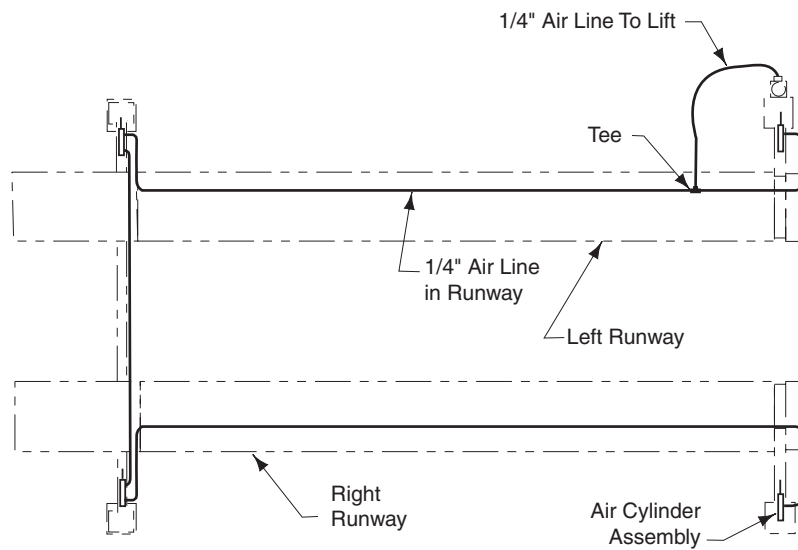

Fig. 28
- F. Attach enclosed NP280 decal (ACTUATE TO RELEASE LATCHES) on air valve bracket. Run 1/4" air line from air valve to the slot in the fixed runway. Cut air line and attach to Tee in front yoke, Fig. 28. This air line is for locking latches.
- G. Run 1/4" air line from the Tee of the runway slot through the hole in the rear yoke and into the air cylinder, Fig. 28.